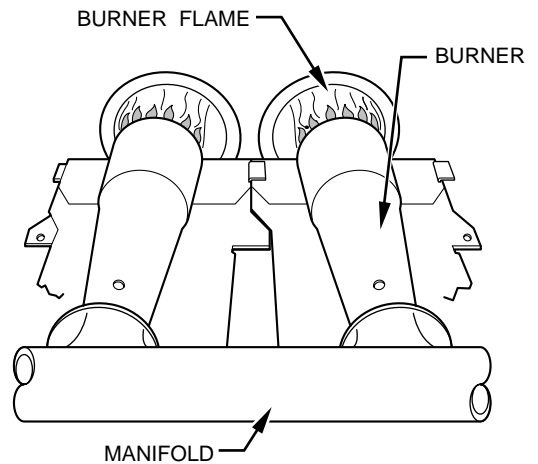

Fig. 49—Burner Flame
- f. Replace burner enclosure front and verify adjusted gas input rate using method outlined in item 3.
- g. Look through sight glass in burner enclosure and check burner flame. Burner flame should be clear blue, almost transparent. (See Fig. 49.)